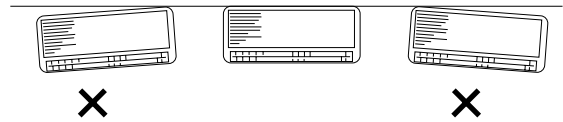

Fig. 12
- (2) Double check with a ruler or carpenter's level that the panel is level. This is important to install the unit properly. (Fig. 12)
- (3) Make sure the panel is flush against the wall. Any space between the wall and unit will cause noise and vibration.